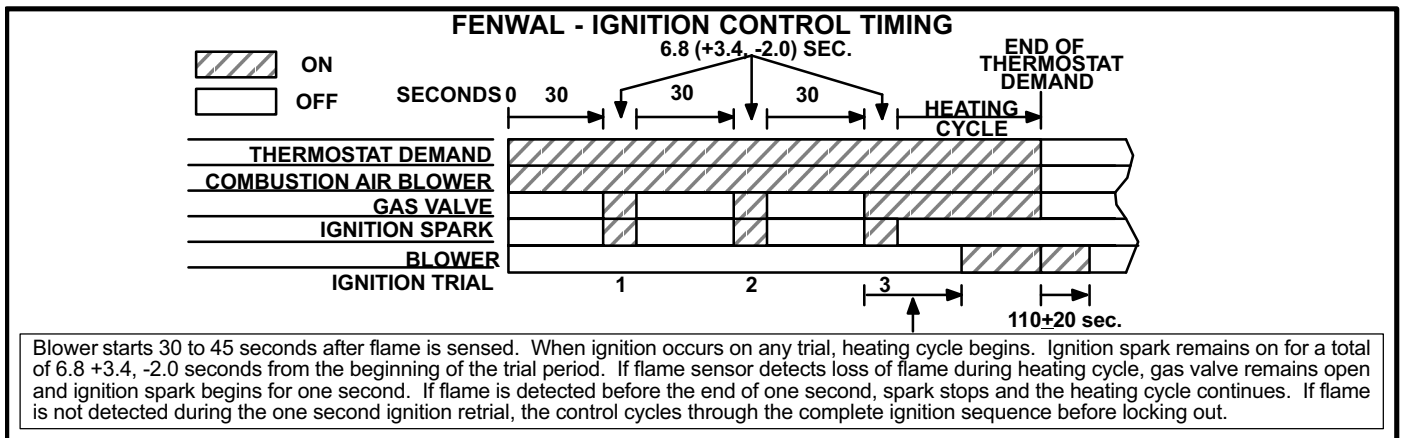

FIGURE 12
- e- Specific timings for the Fenwal control are shown in figure 12.